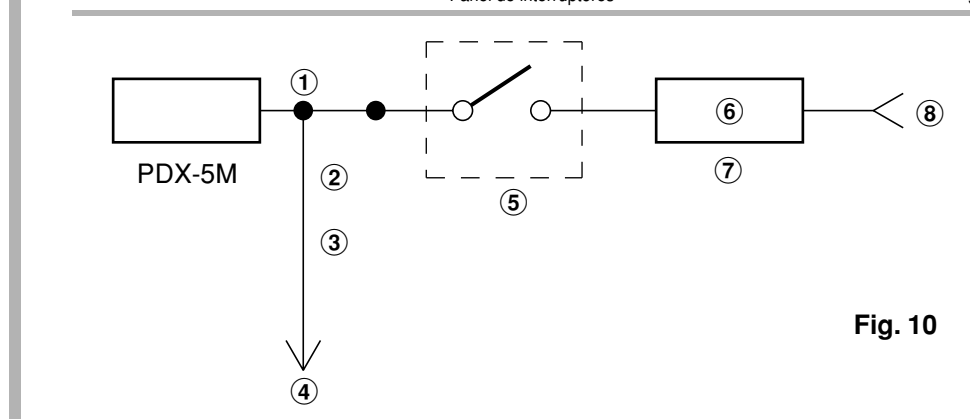

Fig. 10
## CONNECTION CHECK LIST (Fig.10)
- Please check your head unit for the conditions listed below: (Fig. 10)